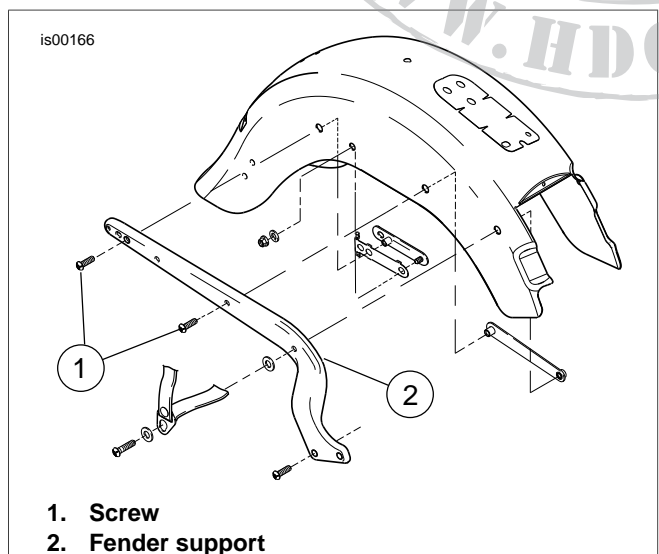
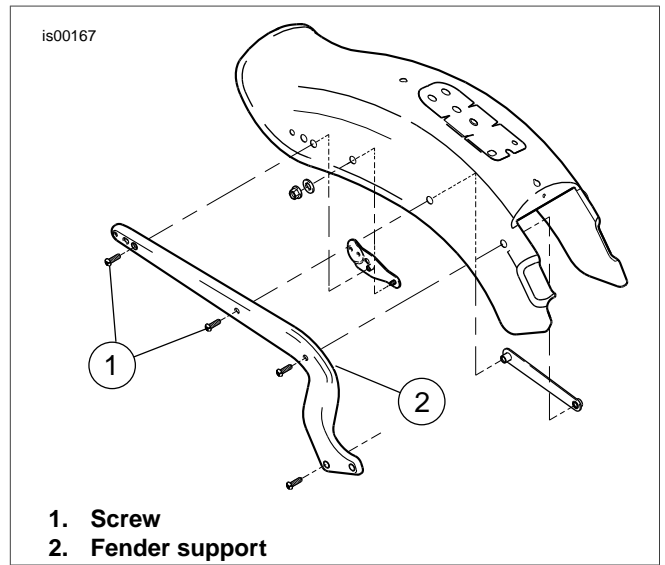

Figure 3. Fender Support Hardware (2006 FLSTF Shown)
Figure 4. Fender Support Hardware (2006 FXST/S/B Shown)
- 1. See Figure 3 and Figure 4. Remove and discard stock screws (1) from fender support (2).